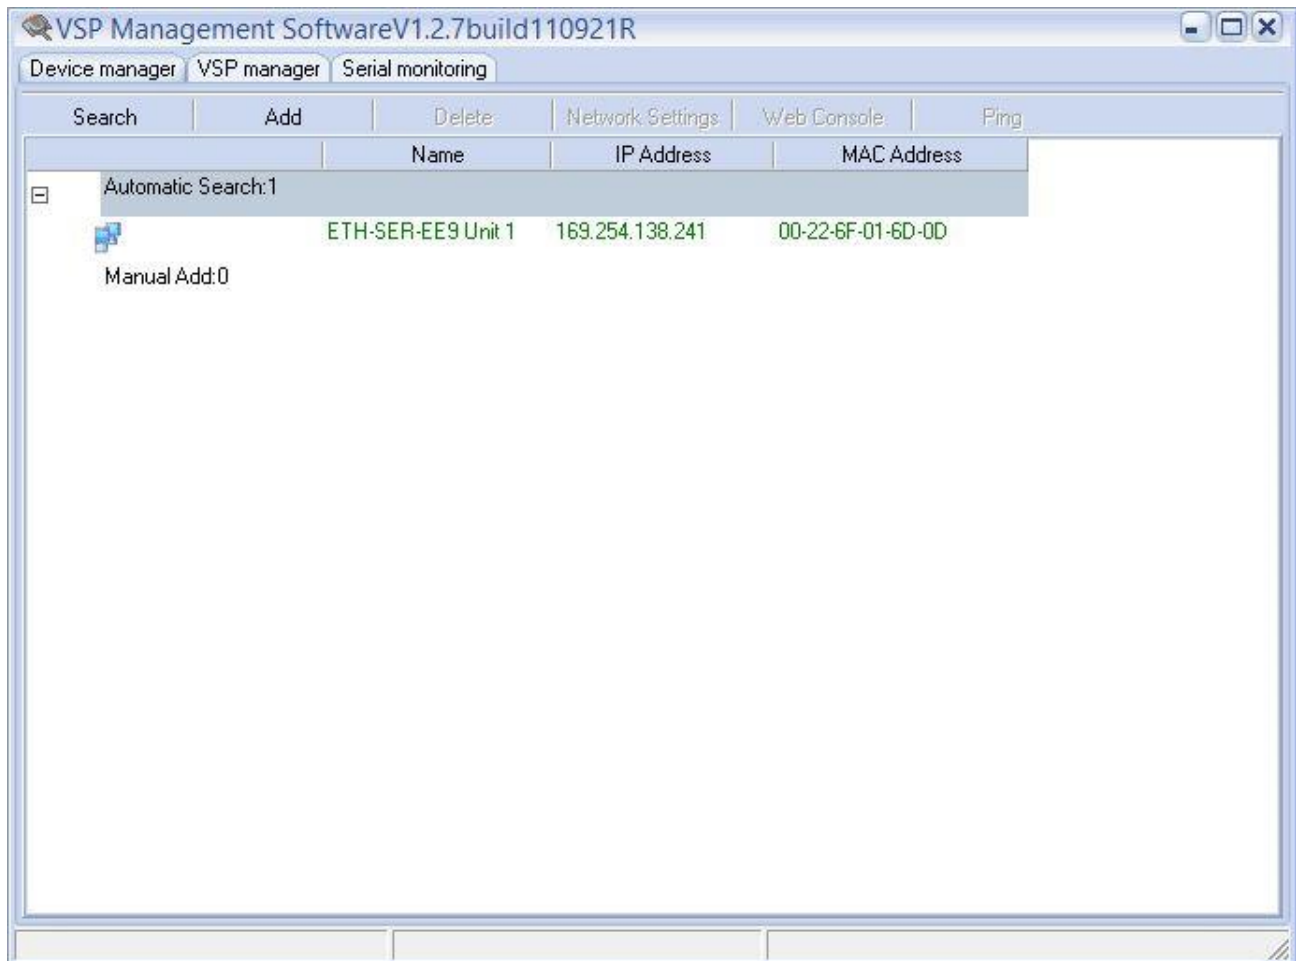

FIGURE 4.17 – SEARCH ETH-SER-EE9 DEVICE
- 5) Search for the attached ETH-SER-EE9 device. Our name is ETH-SER-EE9 Unit 1, IP 169.254.138.241 MAC 00-22-6F-01-6D-0D. (SEE FIGURE 4.17).